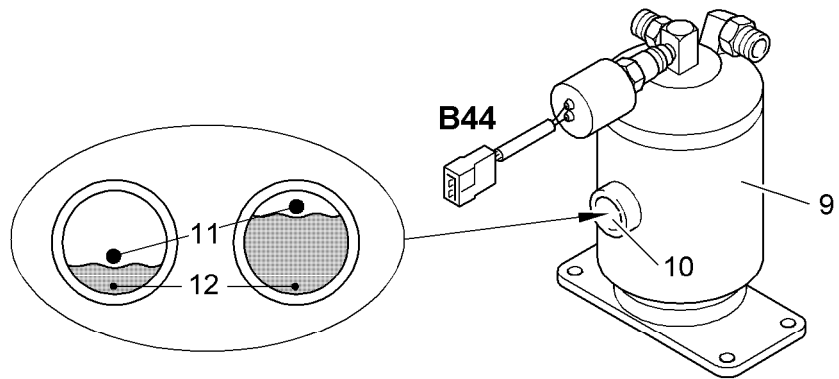

Fig. 5-66 Dryer-accumulator unit
- ▶ Check the function of the pressure switch **B44** on the dryer-accumulator unit **9** (siehe Fig. 5-66).